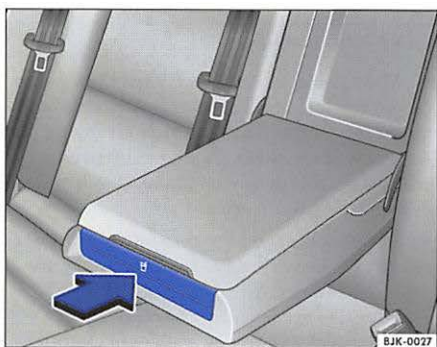

Fig. 59 Open cup holder in rear armrest
– Push the cover in the direction of the arrow ⇒fig. 59. The cup holder will fold open.